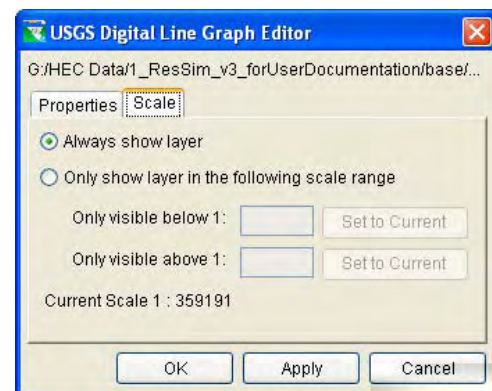

Figure C.3 USGS Digital Line Graph Editor – Scale Tab
1. Select the **Scale** tab (as shown in Figure C.3).